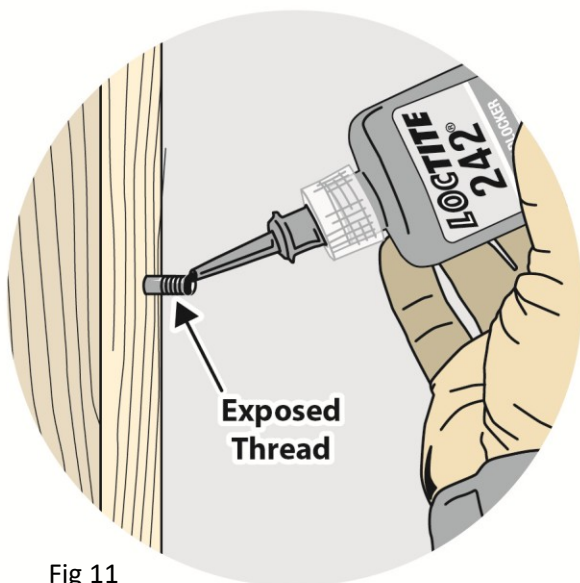
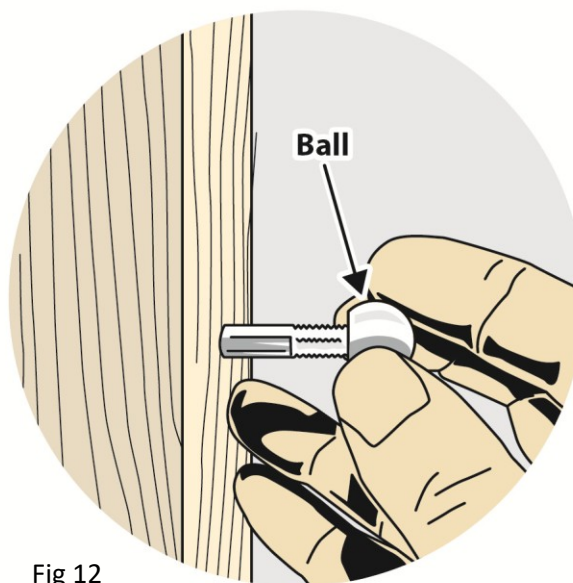

Fig 11
Fig 12
- a) Insert FineLine® Ball Shaft/Swage Ball End Shaft through the 3/8" drilled hole on Post 1. Apply Loctite™ to the threads (Fig. 11) and screw on the ball which will rest on the outside face of the post (Fig. 12).